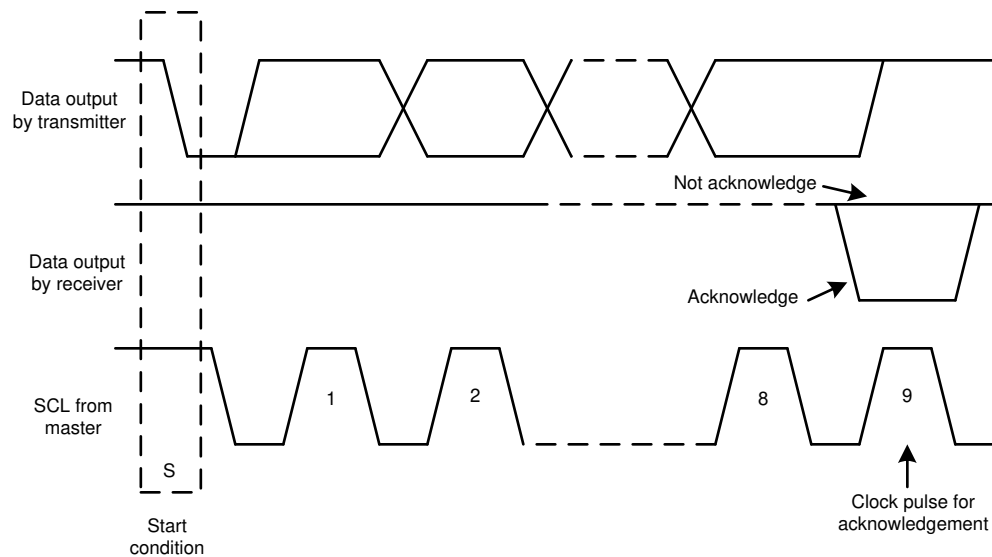
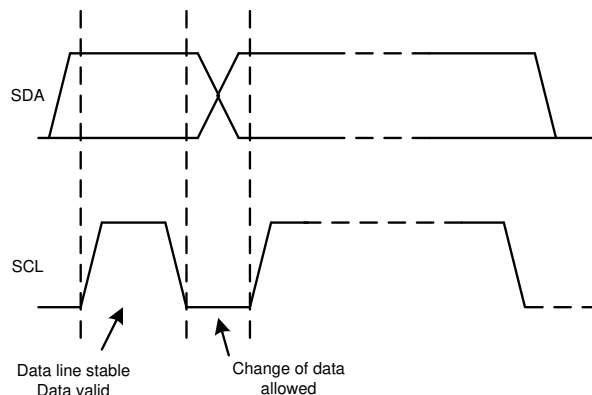

图 8-3. Acknowledge and Not Acknowledge on the I²C Bus
图 8-5. Bit Transfer on the I²C Bus
Other than specific timing signals, the I²C interface works with serial bytes. At the end of each byte, a ninth clock cycle generates and detects an acknowledge signal. An acknowledge is when the SDA line is pulled low during the high period of the ninth clock cycle. A not-acknowledge is when the SDA line is left high during the high period of the ninth clock cycle, as shown in Figure 8-3.
2. The master then generates the SCL pulses, and transmits the 7-bit address and the read/write direction bit (R/\overline{W}) on the SDA line. During all transmissions, the master makes sure that data are valid. A valid data condition requires the SDA line to be stable during the entire high period of the clock pulse, as shown in 图 8-5. All devices recognize the address sent by the master and compare the address to the respective internal fixed address. Only the slave device with a matching address generates an acknowledge by pulling the SDA line low during the entire high period of the 9th SCL cycle, as shown in Figure 8-3. When the master detects this acknowledge, the communication link with a slave has been established.